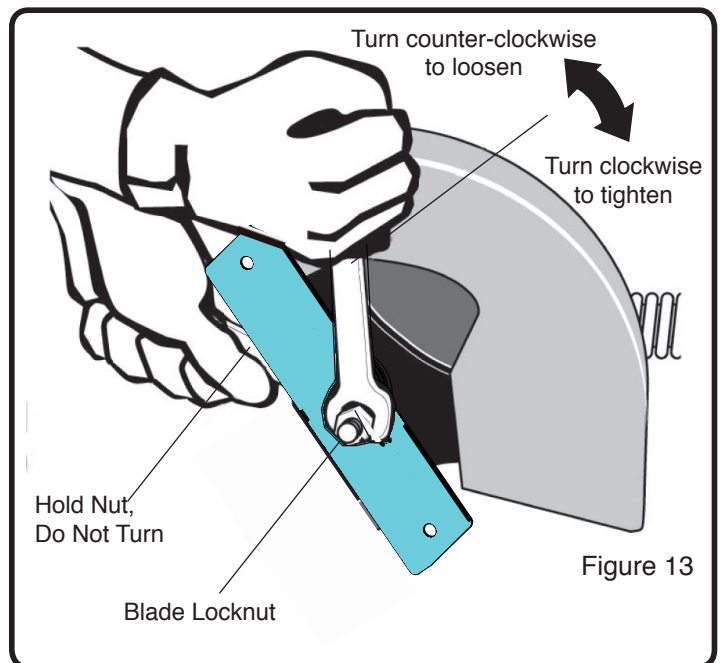

Figure 13
3. Remove the blade locknut that holds the blade to the drive shaft. (See Figure 13)
To remove or tighten the blade locknut, always use the method shown in Figure 13. Always position the holding wrench on the nut behind the blade.